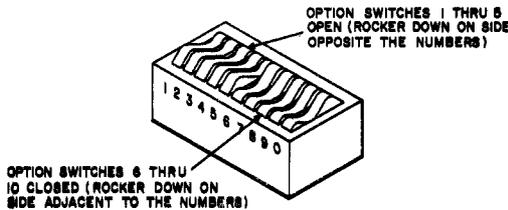

Fig. 1—Option Switch
**2.03** The data set output level is controlled by the switch settings on switch S3 (DS 202S-L1 and -L1A) or S4 (DS 202S-L1C) (Fig. 1 through 4). The output level (transmit line signal level) must be set so that the level of the signal reaching the central office does not exceed -12 dBm. The output level is determined by the following formula: the data set output should be equal to the sum of the desired power level at the central office (-12 dBm) and the loop loss. For example, if the loop loss is 5 dB: